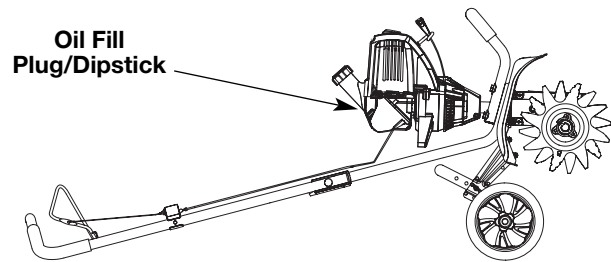

Fig. 6
2. Place the unit on a flat level surface with the cultivator in a horizontal position (Fig. 6).